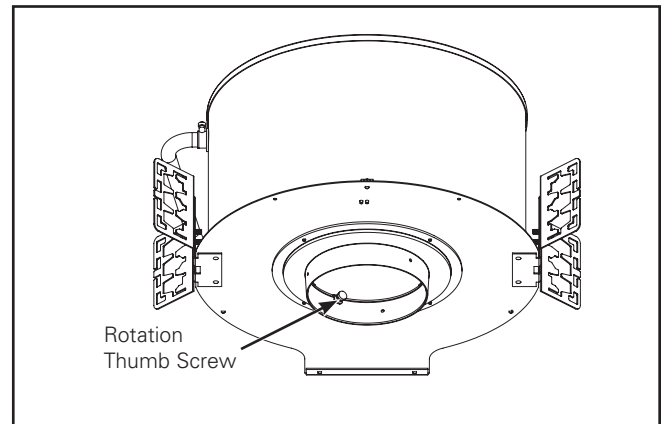

Figure 4.
4. Tighten Angle Adjustment Thumbnuts (2) to lock in angle.
5. Reach through Plaster Ground opening, loosen Rotation Thumb Screw, rotate to desired direction and re tighten thumb screw to lock in place (Figure 4).